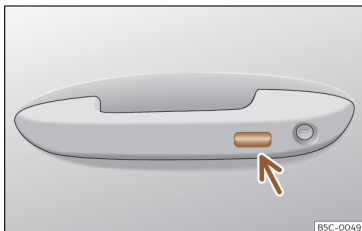

Fig. 87 Door handle: sensor surface.
- **OR:** using the Keyless Access system (only locking): Press and hold the locking sensor surface >>> **Fig. 87** (arrow) on the door handle for several seconds to close the windows and the sunroof. If you stop touching the sensing surface, the locking function is interrupted.
Press and hold the locking sensor surface >>> **Fig. 87** (arrow) on the door handle to close the sunroof. If you release the sensor surface, the closing movement stops.